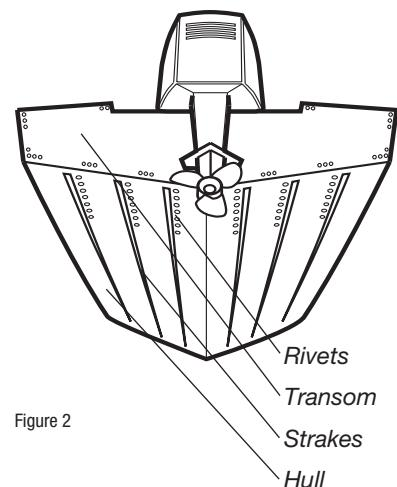

Figure 2
- It is very important to locate the transducer in an area which is relatively free of turbulent water. (See Figure 2) As a boat moves through the water, turbulence is generated by the weight of the boat, and the thrust of the propeller(s) - either clockwise or counter-clockwise. This turbulent water is normally confined to areas immediately aft of ribs, strakes or rows of rivets on the bottom of the boat, and in the immediate area of the propeller(s) (Figure 2). Clockwise propellers create more turbulence on the port side. On outboard or inboard/outboard boats, it is best to locate the transducer at least 15" (380 mm) to the side of the propeller(s).